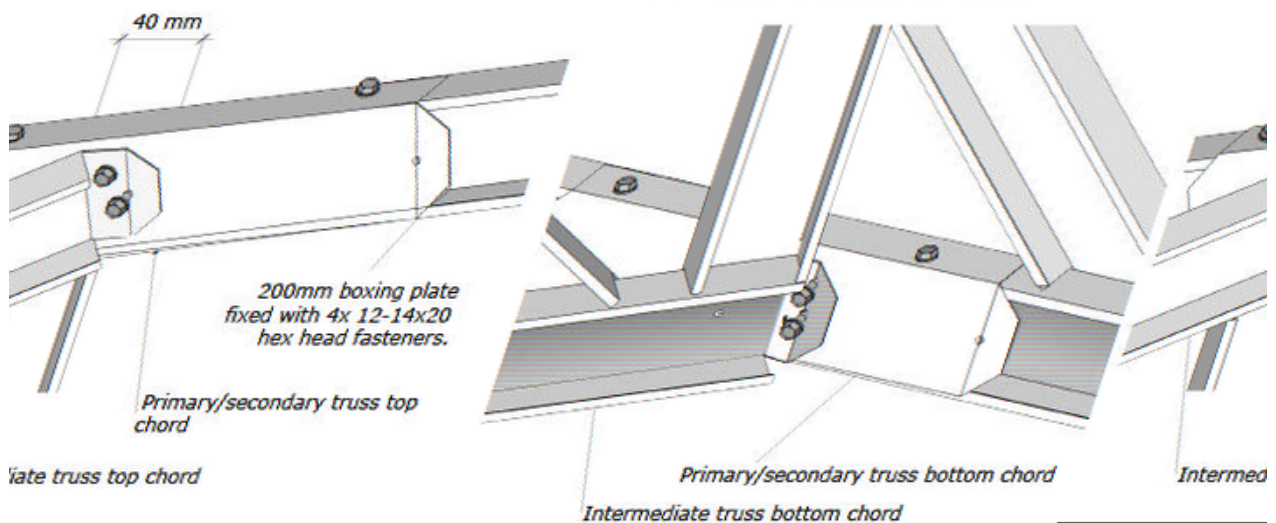

Figure 7.73 Connection between primary and intermediate truss (Top Chord) and intermediate truss (Top Chord)
Step 9: Lift the remaining intermediate trusses into their required position and use the same tie down fixing on the wall frame as per the secondary trusses. Where these intermediate trusses join to the primary trusses ensure that some partial boxing plate is added (to the open side of the primary truss) and fixed with 4x12-14x20 hex head fasteners through the flanges towards the ends of this piece. These intermediate trusses have an extension to the top chord that will manually need to be bent to fix to the primary truss as this area. This bent tab is attached with 2x2-14x20 fasteners through this top chord extension into the top chord of the oncoming truss. The bottom chord also is extended of this intermediate truss and follows the same partially boxing method as just described. Refer to **Figures 7.73** and **7.74**.